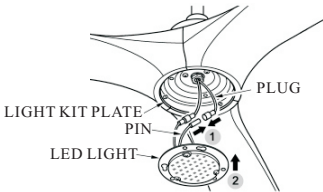

FIG.15
- 4. Plug together light kit wires from fan to light kit wires from LED light.(See fig.15)